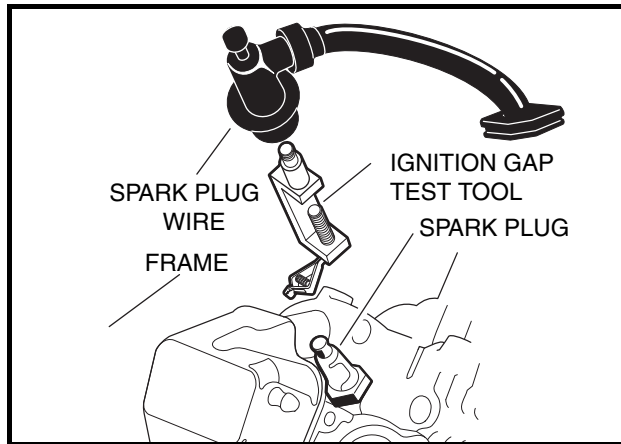

Figure 11-23 Ignition Spark Test
2. Remove the plug wire from the spark plug. Using an ignition spark gap test tool (Thexton 404® or equivalent), check for correct spark (Figure 11-23, Page 11-24).